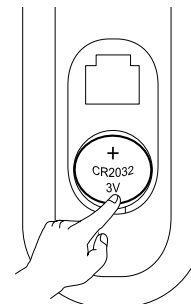

Figure 6
2. Referring to figure 6, press on the bottom edge of the battery to release the battery from the molded battery socket. Then remove the battery from inside of the Remote Control.